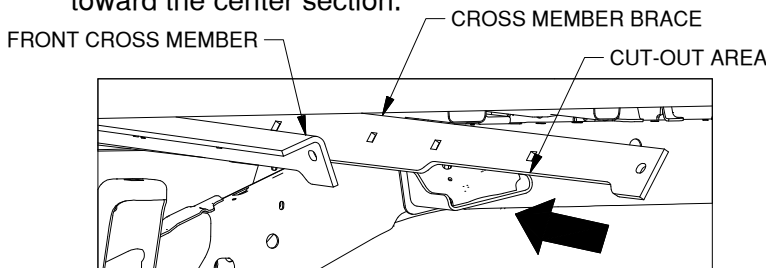

Figure E2: Looking into drive side wheel well.
2. **Place the front cross member brace.** Locate the front cross member brace. Install the brace between the frame and truck bed from the driver side. The cut-out area should be facing down. This end of the brace will go into the truck last and provide clearance for the fuel tank on some models, see Figure E2. Once it spans both frame rails, slide the brace back toward the center section.